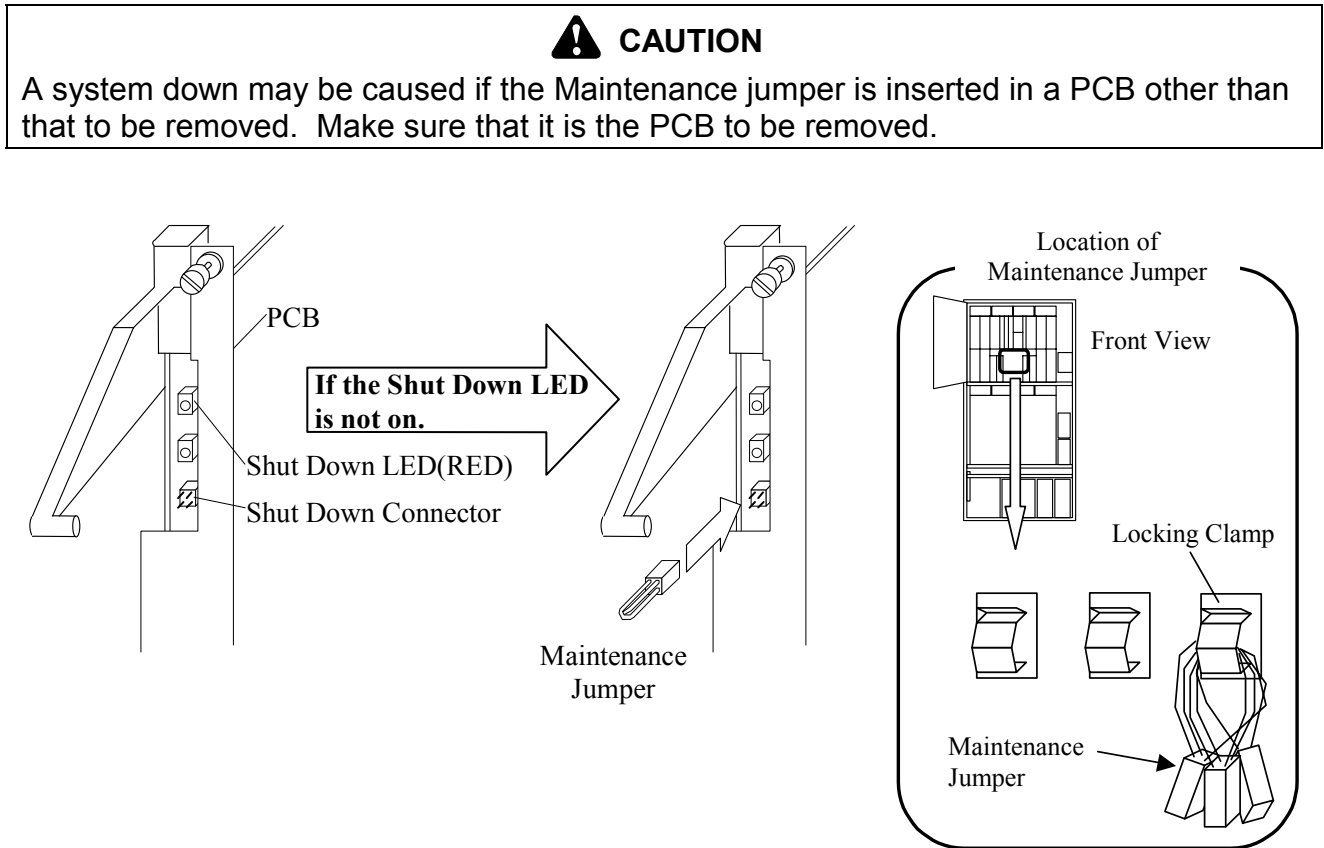

Fig. 4.3.6-1 Shut Down LED
- a. Confirm that Shut Down LED is on (Fig. 4.3.6-1). If the LED is not on, connect the Maintenance Jumper to the Shut Down Connector.
- Remove the bracket and cable clamp referring to Fig 4.3.6-2.
- Disconnect the optical fibre cables referring to Fig 4.3.6-3.